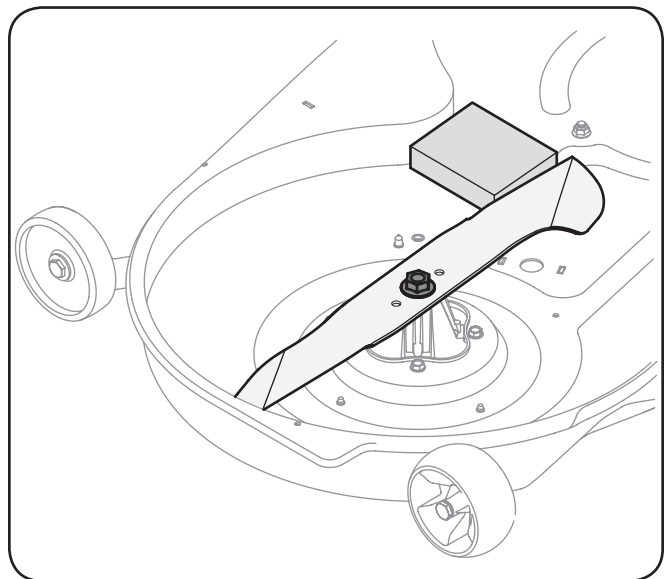

Figure 7-6
2. Place a block of wood between the center deck housing baffle and the cutting blade to act as a stabilizer. See Figure 7-6.
3. Remove the hex flange nut that secures the blade to the spindle assembly. See Figure 7-6.